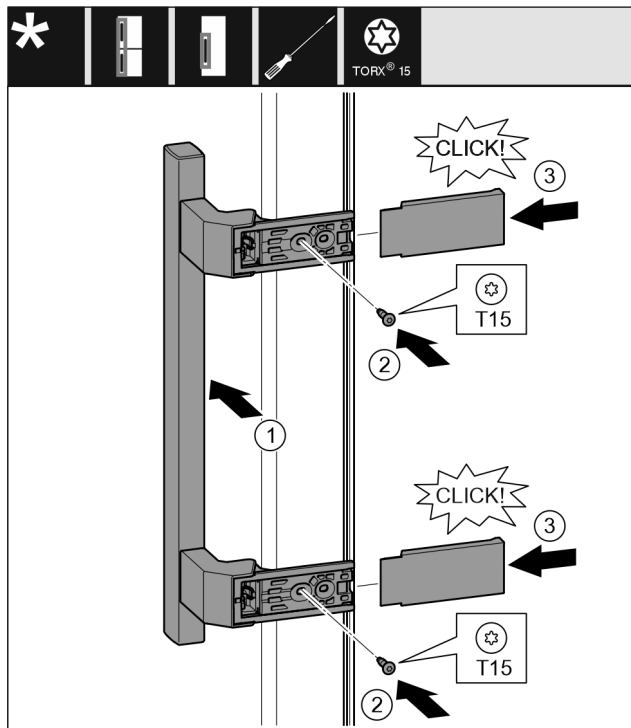

Fig. 40
- Position the handle on the other side. Fig. 40 (1)
- Tighten the screw with a T15 screwdriver. Fig. 40 (2)
- Position the covers on the side and push them on. Fig. 40 (3)